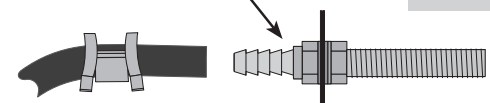

Fig. 9
- Slide the air line clamp over the air line. Push the air line onto the fitting covering all barbs. Using pliers, slide the air line clamp forward until it fully covers the barbed section (Fig. 9).
9. Slide a clamp onto the air line and push the air line over the fitting, covering all the barbs. With pliers slide the air line clamp forward until it fully covers the barbed section (see Fig. 9).